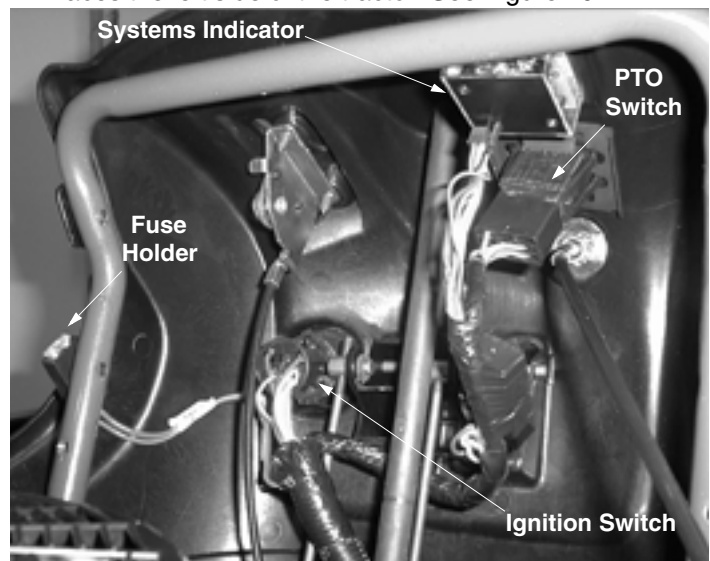

Figure 10
5. Attach systems indicator plug to monitor. Retention clip faces the left side of the tractor. See Figure 10.